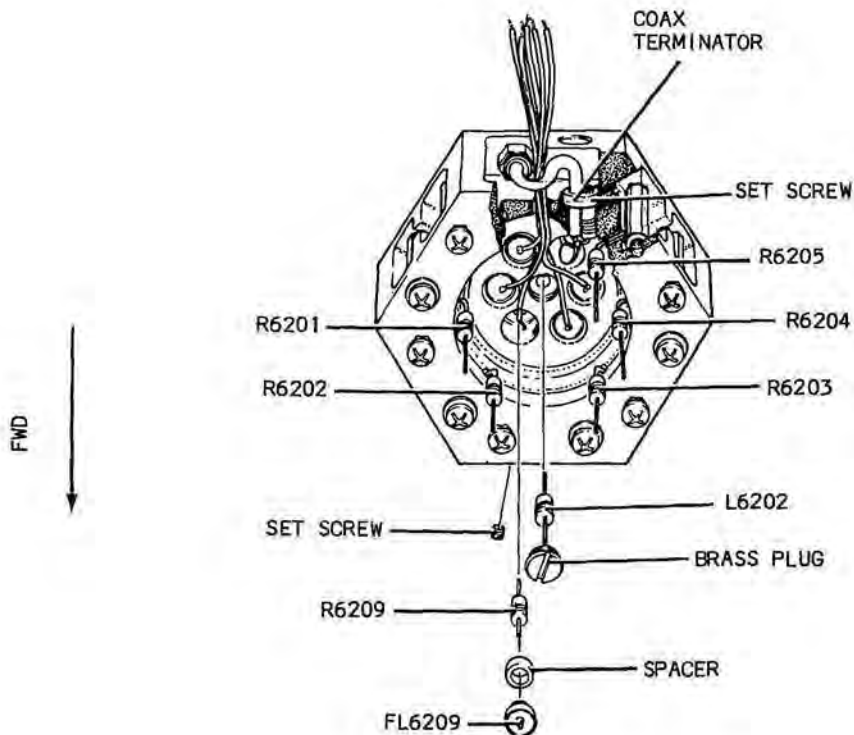

Figure 7-8 Internal View of Front of High Frequency Multiplier/Mixer
1. Remove top cover plate (58) by removing four Phillips head screws (1) and four lock washers (2).
3. Desolder L6201 (23) from FL6301 on front of assembly.
4. Remove each of four side cover plates (11) by removing four Phillips head screws (12) and four lock washers (13).
5. Remove four flat head Phillips head screws (38) securing bottom cover plate.
6. Remove rear cover (49) by removing three Phillips head screws (51) and three lock washers (50).
7. Remove front cover (24) by removing two nuts (26 and 28), two lock washers (25 and 27), eight Phillips head screws (29), and eight lock washers (30).
8. Desolder lead of CR6201 (21) where it passes through at E6301. Remove PC board.
9. Desolder junction where CR6201 (21) meets assembly of R6201 thru R6205. Fold resistors up out of the way. (See Figure 7-8.)
10. Remove disc (19) by loosening two set-screws (15 and 40) and pulling disc out from assembly.
11. To remove brass plug (18) and/or L6202 (17), first desolder junction between CR6203, CR6205, CR6207, CR6209, CR6211, CR6212, and L6202. Then the assembly of the brass plug and L6202 may be unscrewed from the block.